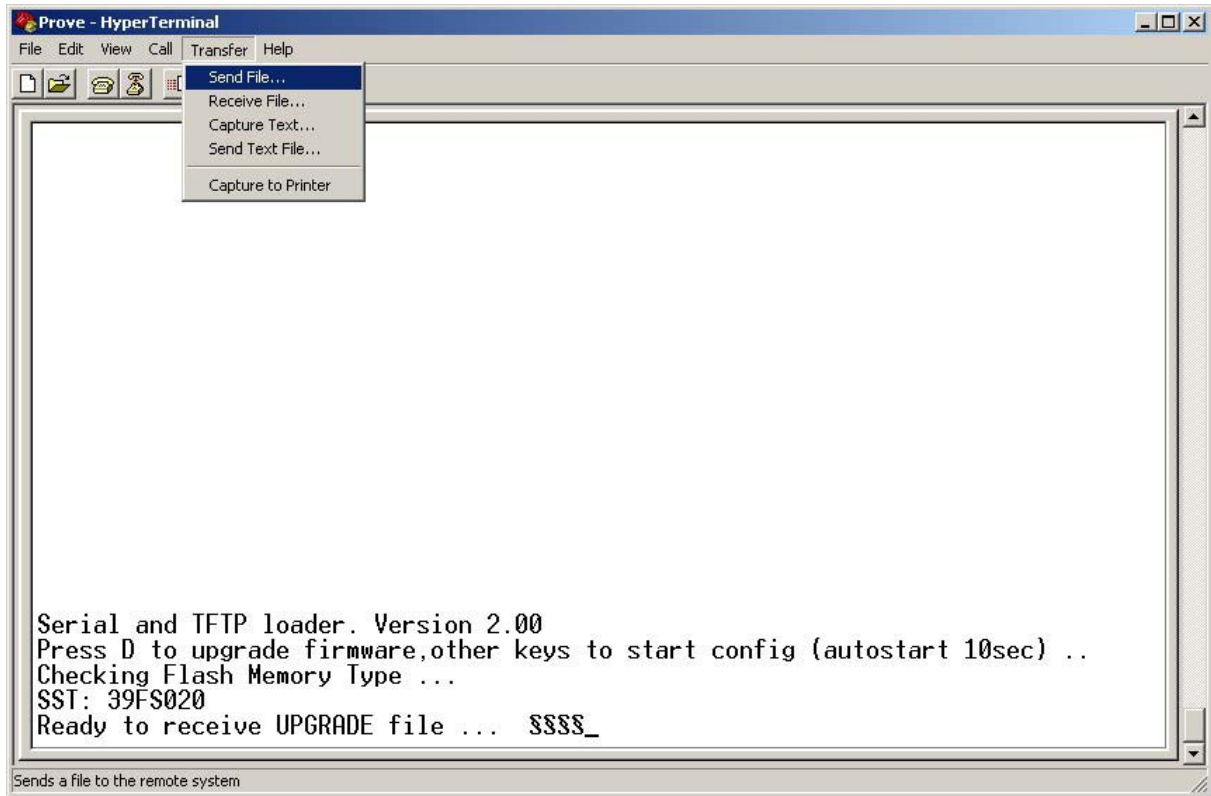

Figure 9: Connection to upgrade the Firmware: selecting "Send File"
6. Select “Send File...” on the “Transfer” menu, as shown in figure 9 below.